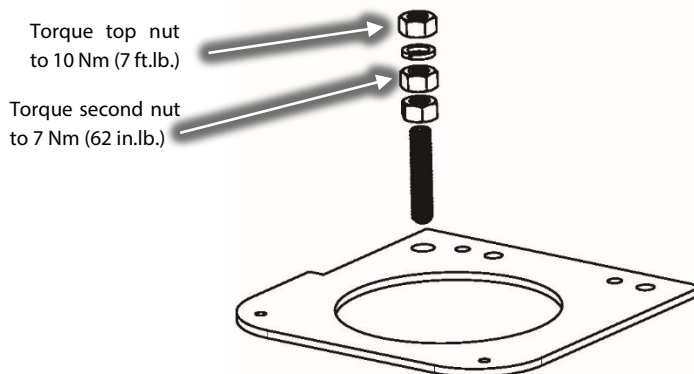

Figure 2 – Ground Location
5. Release the nine (9) screws that secure the Top Cover and remove the cover, taking particular care not to touch ANY components underneath.
6. Using an appropriately rated volt meter, check the DC bus bars for voltage level. If the voltage is above 5VDC, wait five (5) minutes and recheck until 5VDC or below is achieved.
7. For F Series and later compressors, remove the Soft Start Temperature Harness. Refer to Figure 2 (Soft Start J9 Connector).
8. Disconnect the Soft Start ground wire by removing the top nut and mains input ground wire from the ground post on the compressor housing at 3 phase connection point. Refer to Figure 2 (Ground Location).